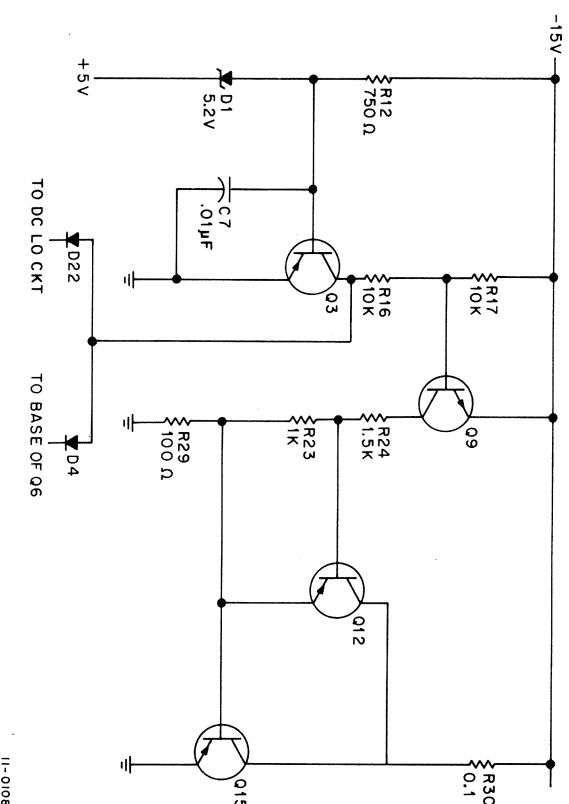

Figure 2-13
2.4.2.4 -15V Crowbar Circuit – The -15V crowbar circuit (see Figure 2-13) includes the +5V low-sensing circuit (Q3) to trigger the crowbar. The collector of transistor Q3 is connected through diode D22 to the DC LO circuit, and through diode D4 to the base of transistor Q6, to implement turn-off of the -15V regulator when transistor Q3 is conducting.